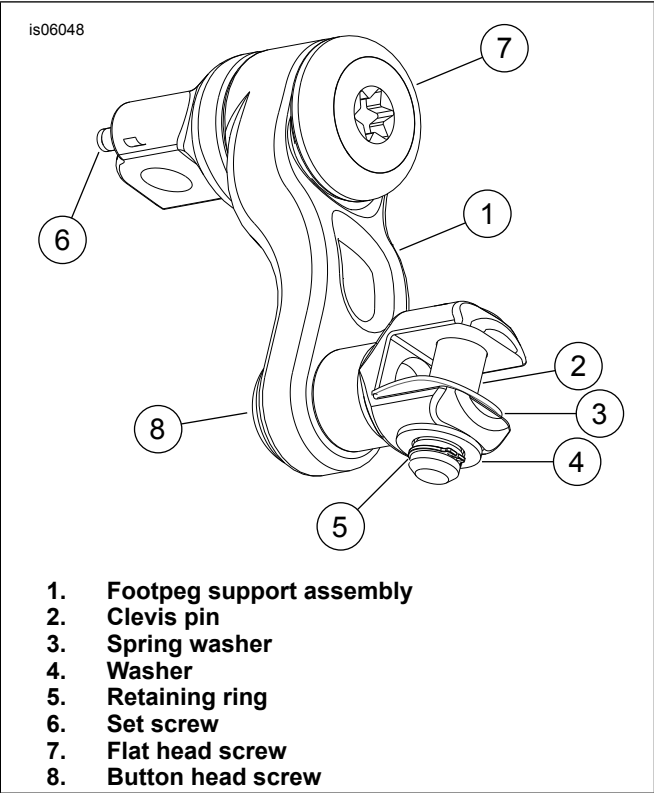

Figure 3. Adjustable Footpeg Support
5. Tighten screws (3) to 33.9–40.7 N·m (25–30 ft-lbs).
6. **Kit 50763-09:** See Figure 3. Install the adjustable clevis with the set screw (6) on the top to the footpeg support and secure it with the spring washer, screw and locknut previously removed.